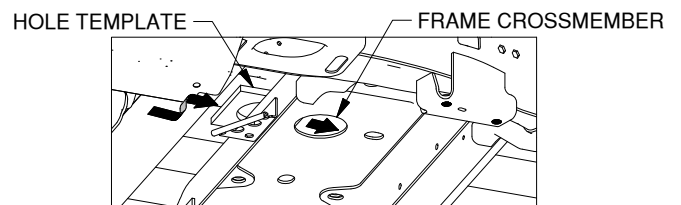

FIGURE B1: Looking up at bed from forward of the driver side tire.
1. **Place spacer block.** Position the plastic spacer block between the frame cross member and the bed as shown. See figure B1. Center the hole in the spacer block over the hole in the frame.